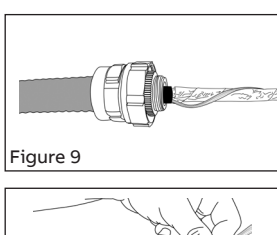

Figure 10
- Remove outer (overall) shield from the conductor bundle. Take care not to nick or damage the inner shields (Figure 10).